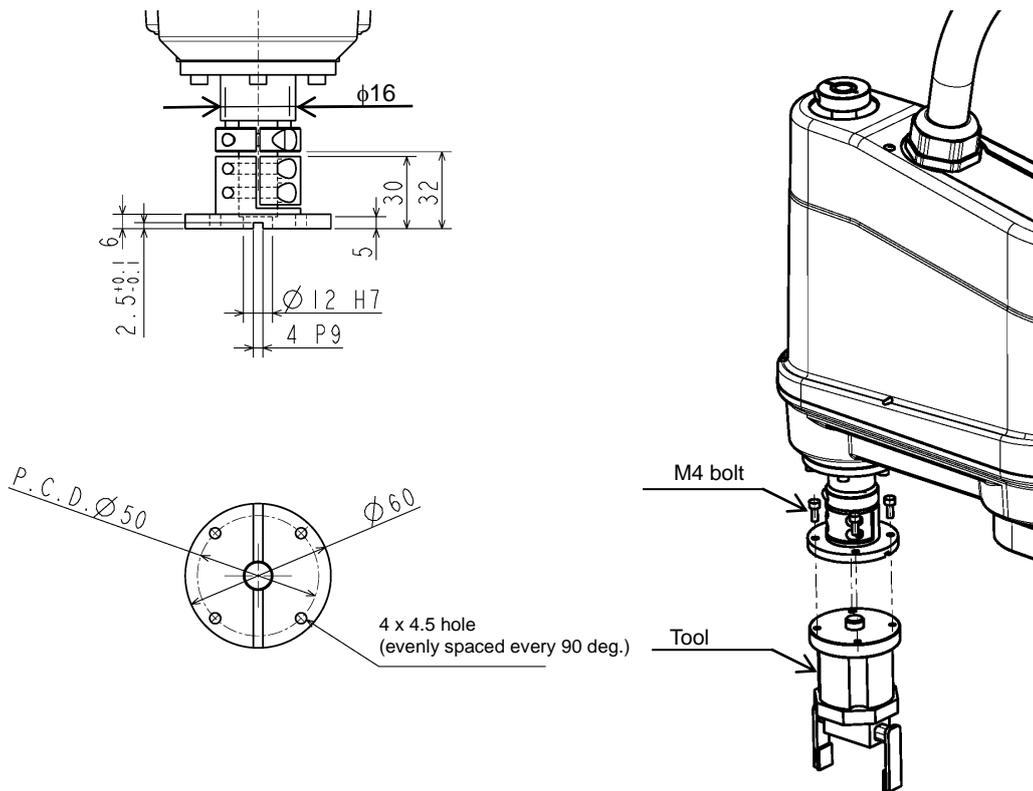

Fig. 9.1 Tool mounting dimensions (KHL-300 and KHL-400)
The tool is mounted on the end of the tool shaft. Dimensions of the tool shaft section are shown in Fig. 9.1. As shown in Fig. 9.1, the tool is centered with the $\phi 12\text{H7}$ mating section. The tool direction is adjusted by means of the 4 x 4 keys and secured with four (4) M4 bolts.